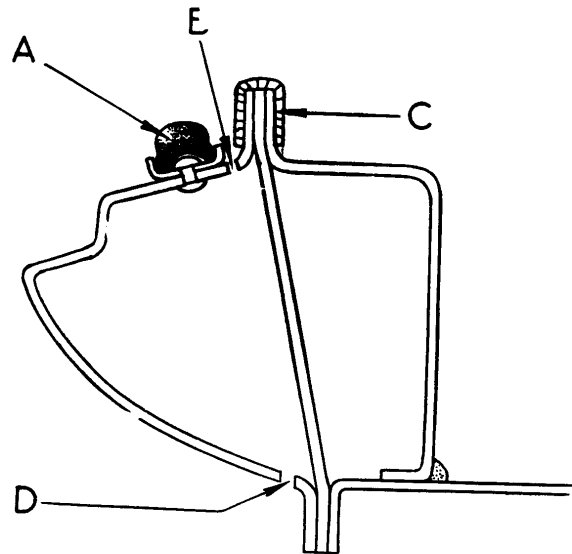

FIG 2.
10. A "P" section rubber, part number 651842, as now fitted to the "A" post and screen pillar, allowing each coat to dry before applying a further coat. Brush sealer be fitted to any car not so equipped by attaching with a suitable adhesive. See Fig. 2 "E" for correct positioning of rubber to screen pillar and "A" post.